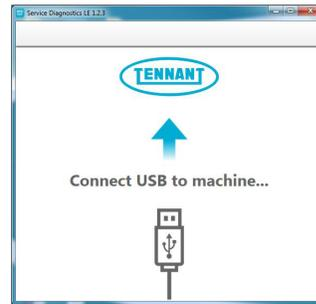

Fig. 9
- After software start up, the following screen will appear (Figure 9).